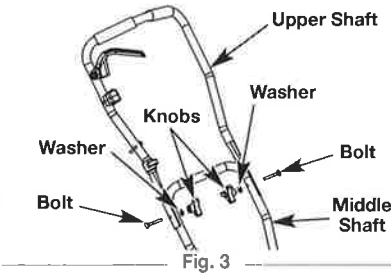

Fig. 3
- Align the holes on the upper shaft with the holes toward the upper end of the middle shaft (Fig. 3).
NOTE: Make sure the "V" bend in the handle is pointing up, so that the throttle control is on the right side when the operator is standing in the operating position (Fig. 3).
- Insert a flange-headed bolt into each of these two holes (Fig. 3).
- Install a washer and knob onto each bolt (Fig. 3). Tighten the knobs securely.